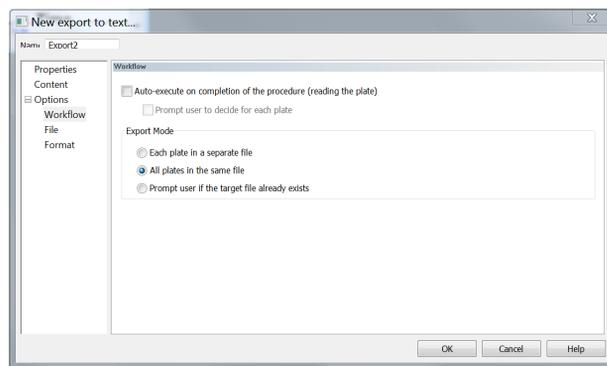

Figure 19. Exporting a Data File in Gen 5 Software, Settings for Workflow Tab.
- 5 Select **Workflow**. See **Figure 19**.